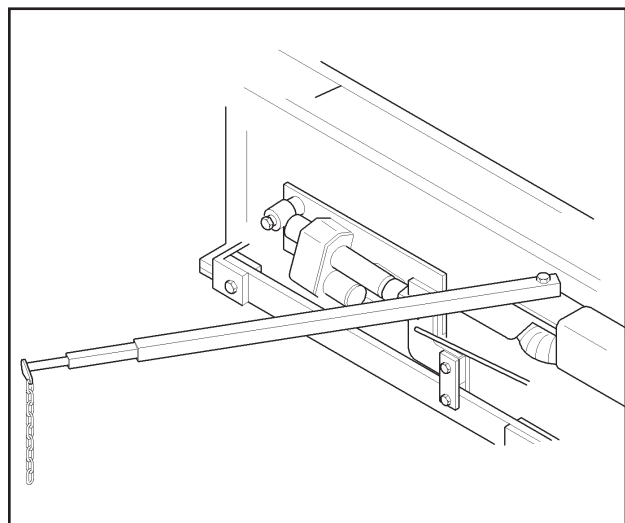

FIGURE 3-17. GUIDE BAR GAUGES
2. Use a reference guideline. This can be a curb, gutter, adjacent mat or a string line. It is important that the first pass be straight. It will be the guideline for the following passes. Use the guidebar gauges as shown in Figure 3-17.